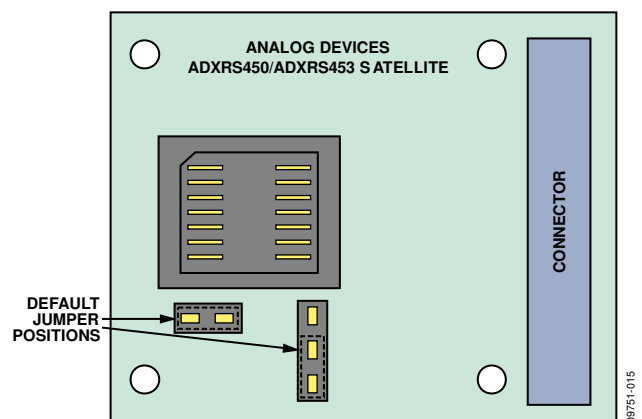

Figure 16. Default Jumper Positions
4. Ensure that the jumpers on the **ADXRS450/ADXRS453** satellite are in their default configuration, as shown in Figure 16. This sets up the board to use the on-board boost converter to generate the required high voltage supply for the device. For more information on using alternate high voltage supplies, see the **ADXRS450** and **ADXRS453** data sheets and the **Alternate External High Voltage Supply** section of this guide.